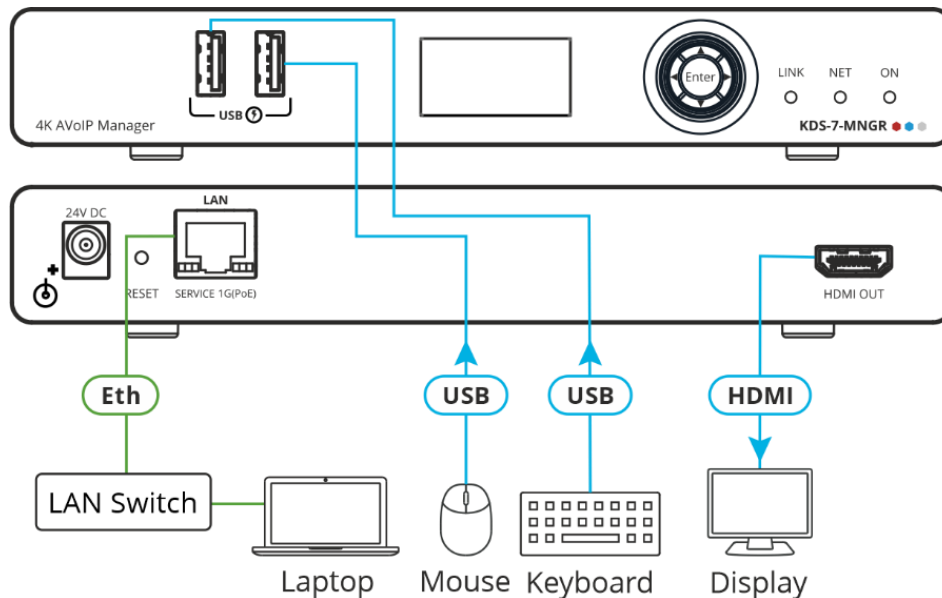

Figure 2: Connecting the KDS-7-MNGR
**To connect KDS-7-MNGR as illustrated in the example in Figure 2:**
1. Connect the LAN RJ-45 port (9) to the LAN switch.
2. Connect the HDMI OUT connector (10) to an HDMI acceptor (for example, a display).
3. Connect a mouse and a keyboard to the two USB type A ports (1).the USB ports.